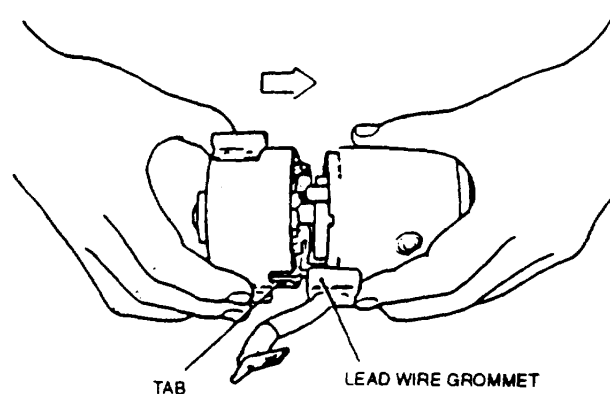

FIGURE 3-40. Installing Cover On Yoke
- j. Position cover (12, FIGURE 3-15) on yoke (39) engaging tab on cover with lead wire grommet, refer to FIGURE 3-40. Secure with two screws (11, FIGURE 3-15). Tighten screws 1.95 to 3.40 ft-lbs (2.6 to 4.6 Nm).